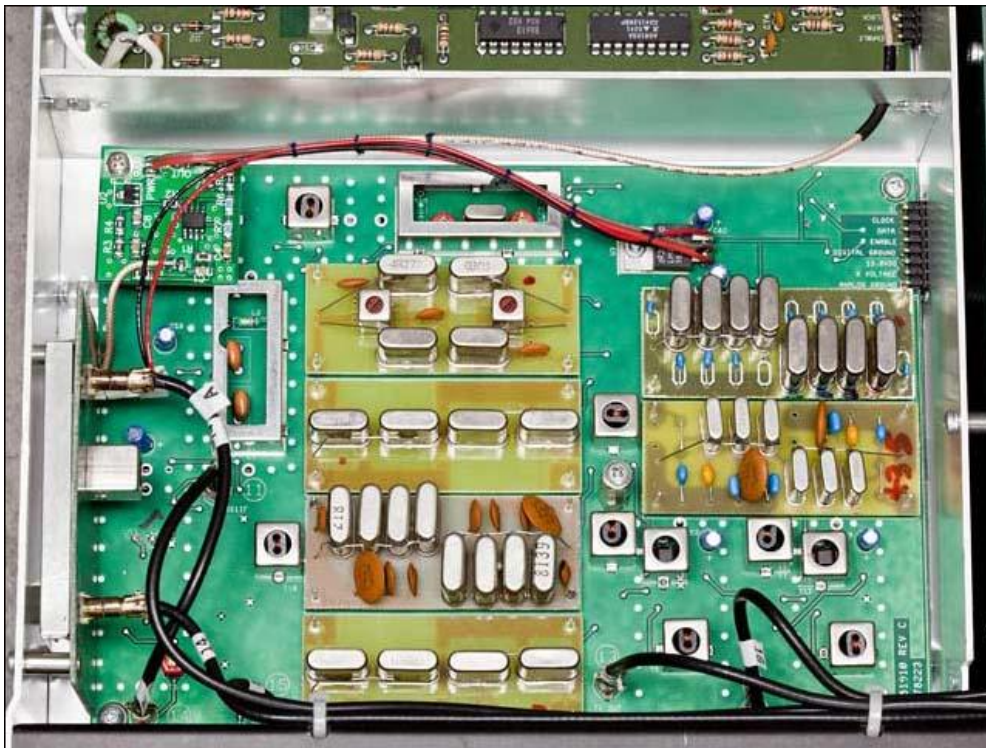

Figure 8: Modified 9 MHz IF board with Z10000 Buffer at upper left
13. Mount the Z10000 buffer with a 1 inch metal stand-off and appropriate longer 4-40 screw in the upper left corner of the 9 MHz IF enclosure (Figure 8 below).
15. The output from the Z10000 buffer was fed through an **existing hole** between the IF board and the Low Pass Filter board (see Figures 8 & 9 above). The cable was run through existing zap straps on the left of the chassis and along the rear of the rig to the **SPARE** connector jack. The coax was soldered to the rear of the mini coax connector labelled SPARE. (In figure 10 below the photo on the left is **looking down** on the internal connector for the **SPARE** jack. The photo on the right is taken from the **rear of the rig**.)